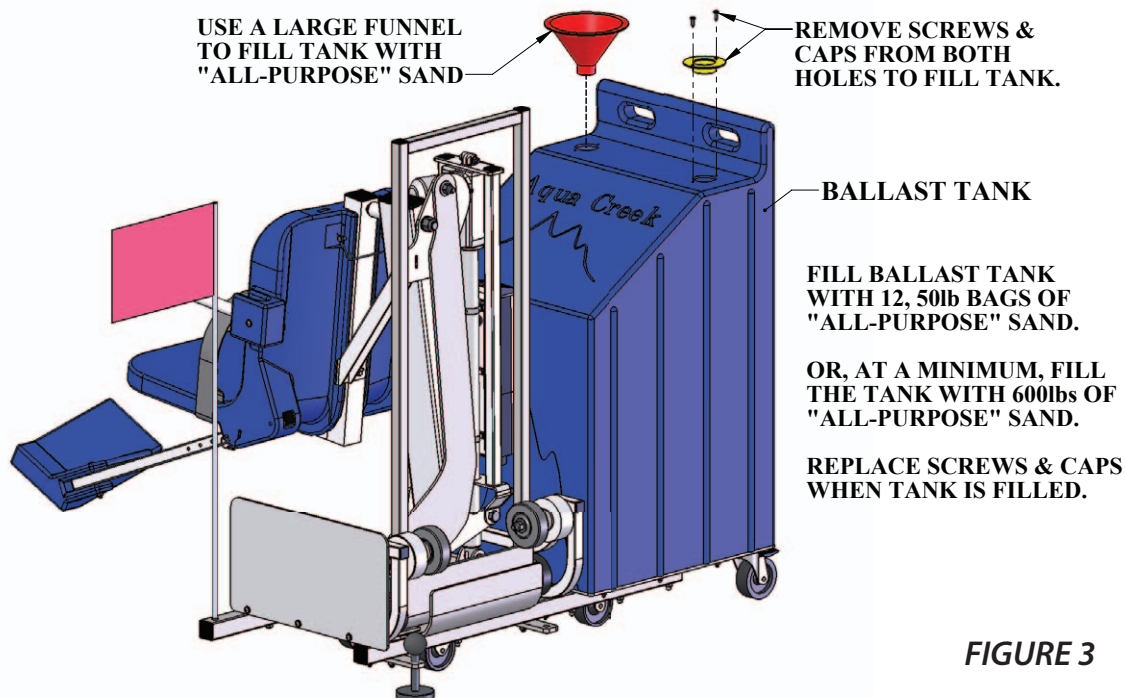

FIGURE 3
6. Fill the ballast tank with sand (not included) outlined in FIGURE 3 below. Gently shake or tap the tank sides periodically to help level the sand. Alternate between fill ports to make sure sand is evenly distributed (use a large size funnel to help in this step).